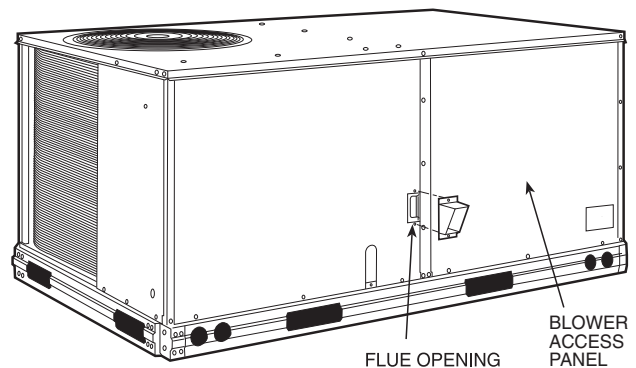
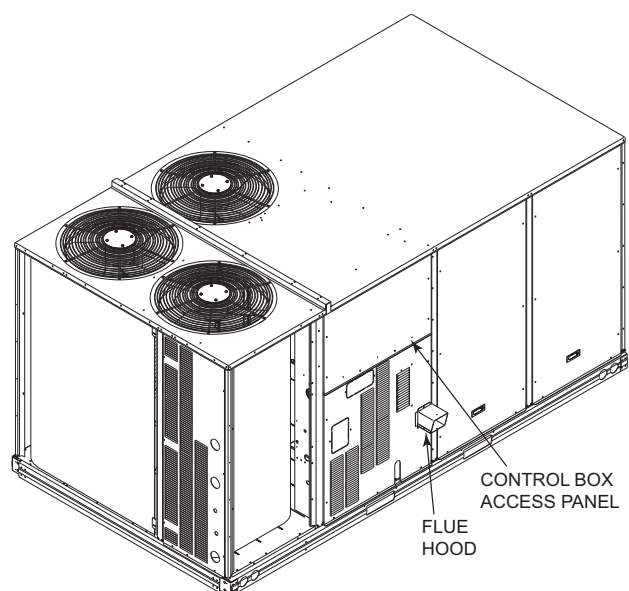

Fig. 23 — Flue Hood Details (Sizes 089-150)
Fig. 24 — Flue Hood Details (Size 180)
Step 9 — Install Flue Hood — Flue hood is shipped screwed to the basepan beside the burner compartment access panel. Remove from shipping location and using screws provided, install flue hood and screen in location shown in Fig. 23 for size 089-150 and Fig. 24 for size 180.